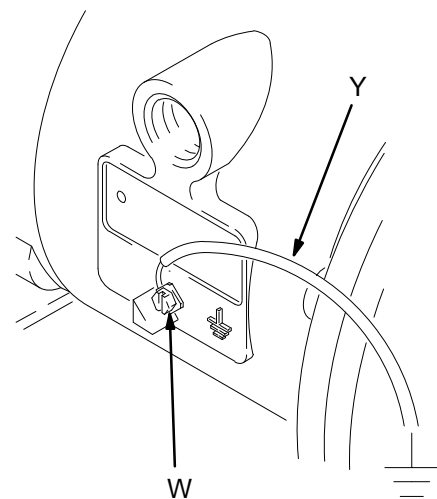

Fig. 1
- *Pump*: loosen the grounding screw (W). Insert one end of a 12 ga (1.5 mm²) minimum ground wire (Y) behind the grounding screw and tighten the screw securely. See Fig. 1. Connect the clamp end of the ground wire to a true earth ground. Order Part No. 819.0157 Ground Wire and Clamp.